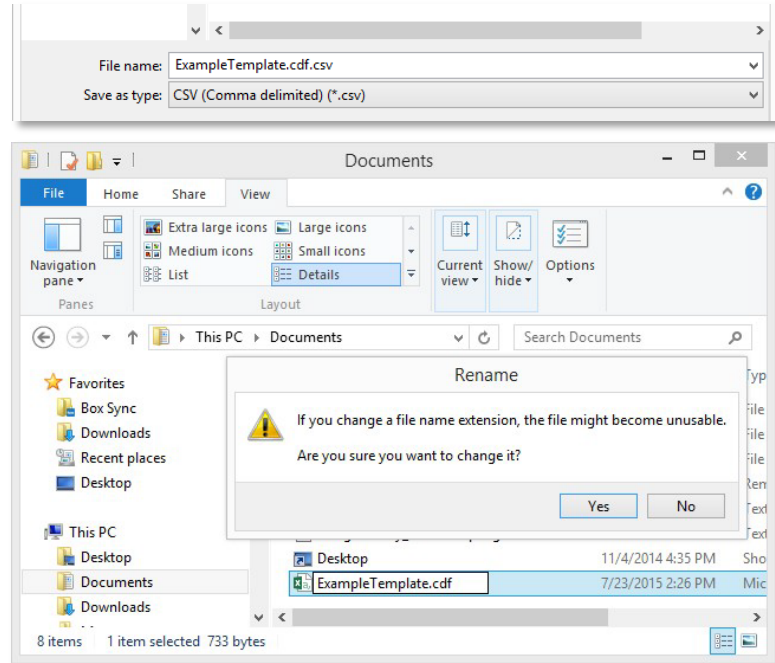

Figure 61: Removing the “.csv” file extension.
- When complete, save to the **CDFData** folder as file type “.csv”; the file name will include BOTH “.cdf” and “.csv” extensions as shown in **Figure 61, top**.
- Remove the extra “.csv” file extension, leaving the file extension “.cdf” (**Figure 61, bottom**). If a warning appears, click **Yes** to continue.